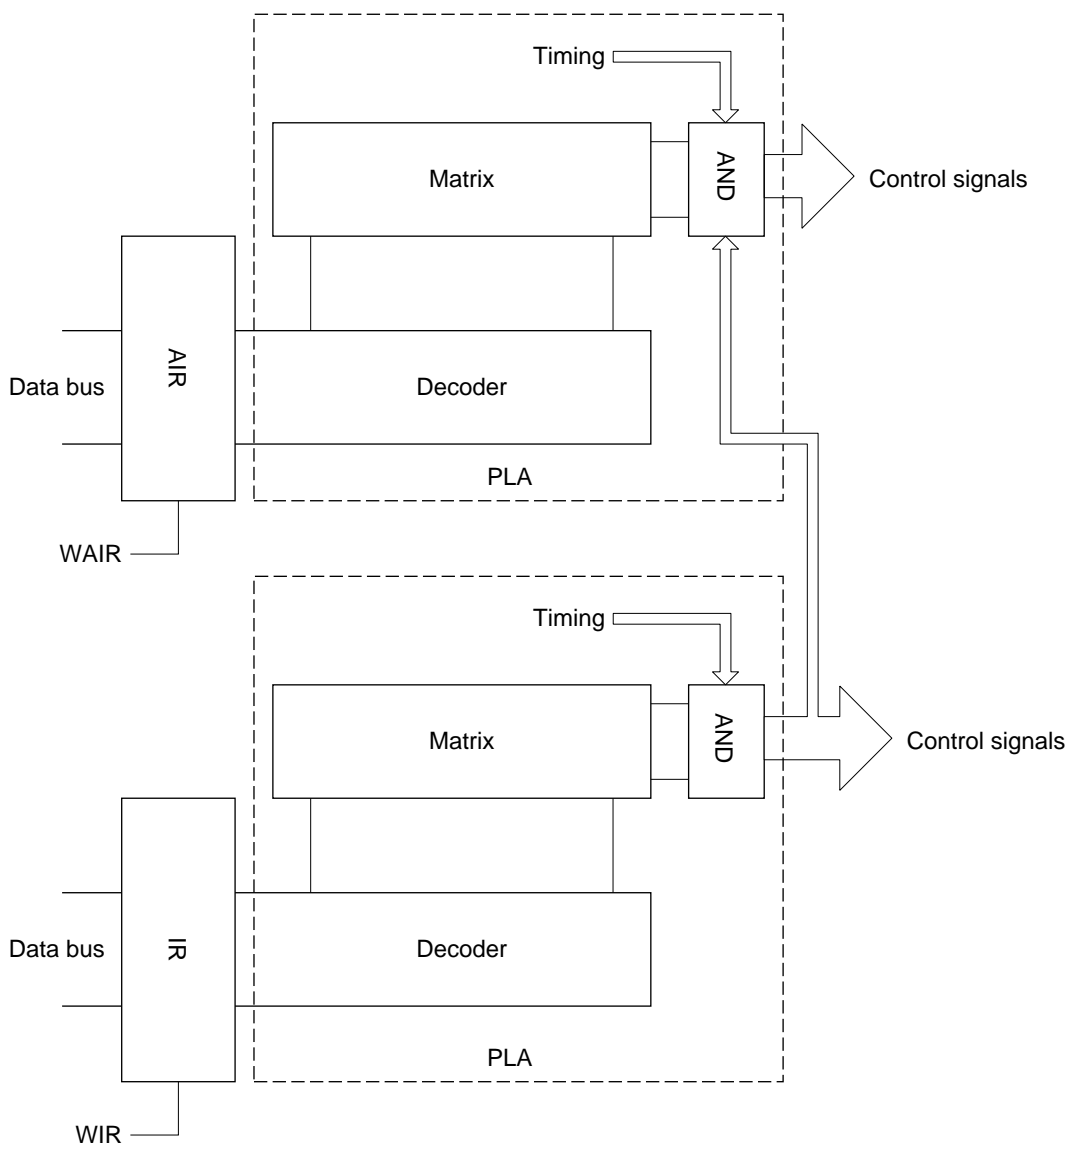

Figure 2-21 IR and PLA block diagram
2.7 Instruction Register (IR) and Instruction Decoder (PLA)
MSM80C154S/MSM83C154S operations are based on an instruction code address method. Hence, in addition to the instruction code instruction register (IR) and instruction decoder (PLA), these devices also include an instruction register (AIR) and register manipulation decoder (PLA) for data addresses and bit addresses. Operation codes are passed to the IR, and data and bit addresses are passed to the AIR. CPU control signals are formed at the respective PLA for each instruction register, thereby activating the CPU. The block diagram is outlined in Figure 2-21.